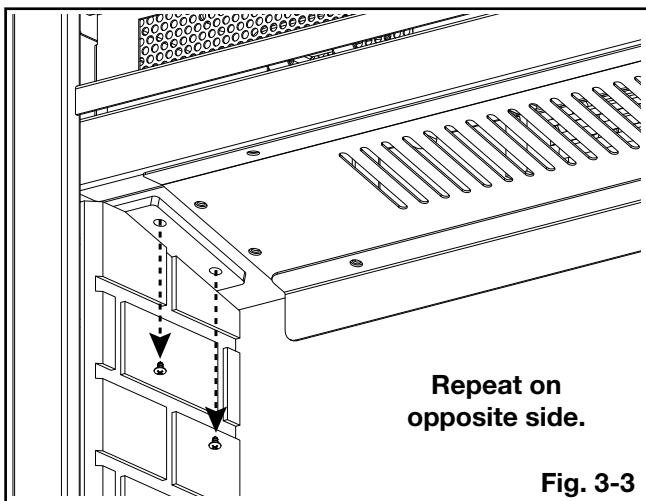

Fig. 3-3
4. Remove side brick panels by removing 2 screws from each side (**Fig. 3-3**). Set the screws and panels aside (**Fig. 3-4**).